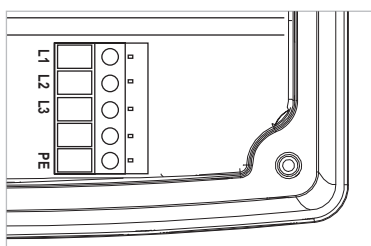

Fig. 21: Mains connection terminals
- Mains connection terminals (Fig. 21)